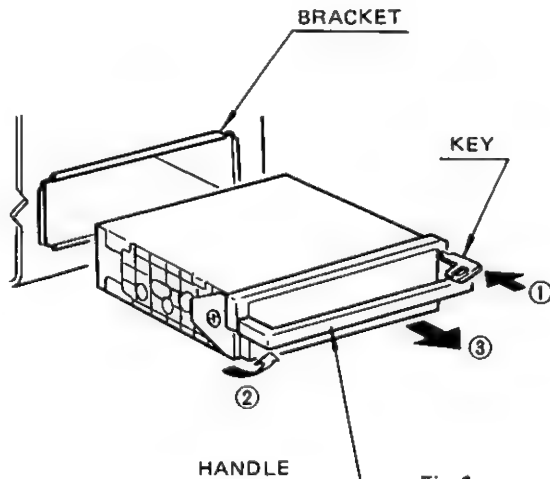

Fig. 1
2. Insert the key into the key hole (Fig. 1, ①) completely until the safety lock is released.
As a result, the handle will be slightly lifted upwards. (Fig. 1, ②)
3. Remove the key and lift the handle. Remove the unit from its bracket by pulling the handle firmly. (Fig. 1, ③)